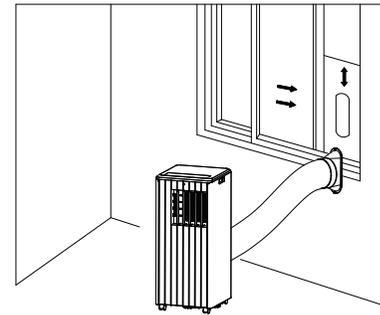
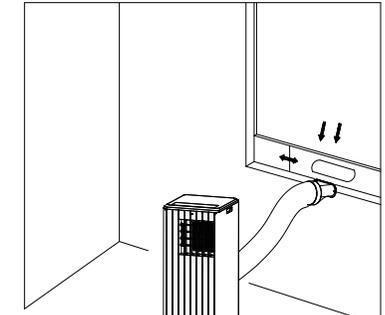

Fig.5
Fig.6
2) Elongate the exhaust pipe and snap the flat end of the exhaust pipe joints into the hole of the window sealing plate assembly (as shown in Fig.5 and Fig.6)